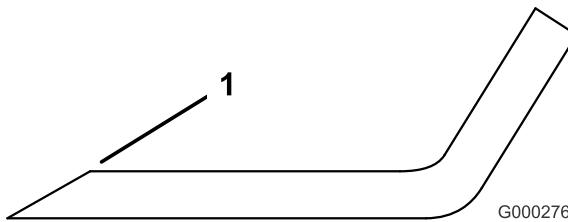

Figure 74
1. Sharpen the cutting edge at both ends of the blade (Figure 74). Maintain the original angle. The blade retains its balance if the same amount of material is removed from both cutting edges.